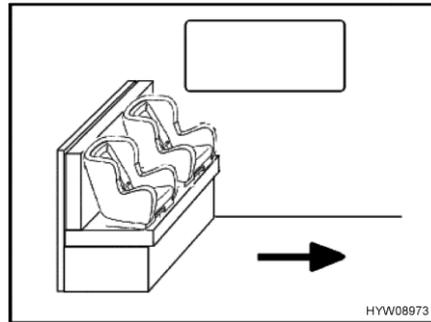
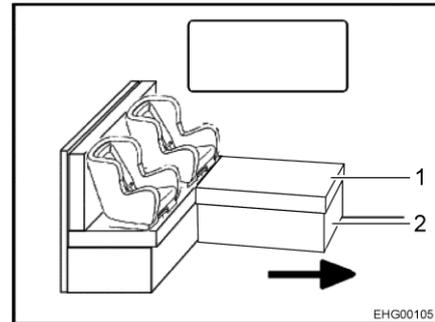

Fig. 25 Child seats on bench
Fig. 26 Child seats on L-shaped bench
The arrow in Fig. 25 and Fig. 26 shows the direction of travel.
- Remove the cushion (Fig. 26,1) if necessary.
- Fold the chest frame (Fig. 26,2) if necessary.